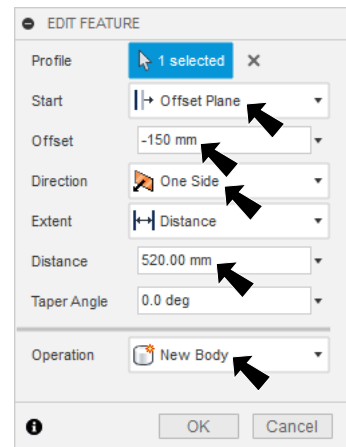

Fig. 9
Step 16. In the Extrude panel set, **Fig. 9**